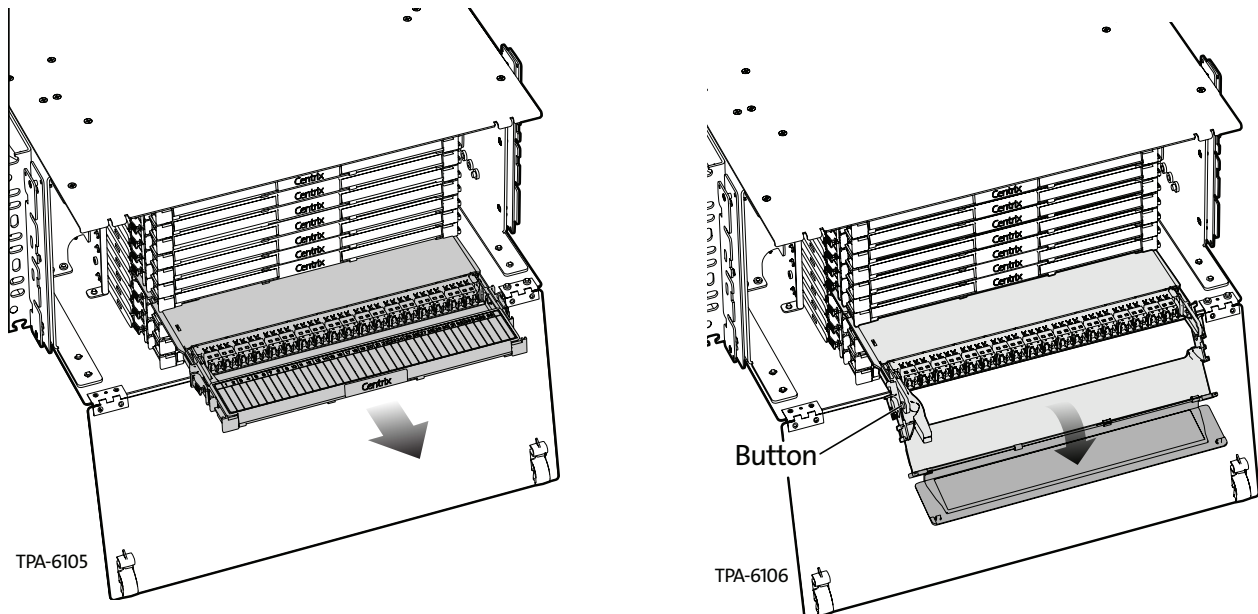

Figure 20
- Step 2:** Press latch on right side of cassette and pull cassette out to detent position (Figure 20).
- Step 4:** Open the handle cover (Figure 20 right).